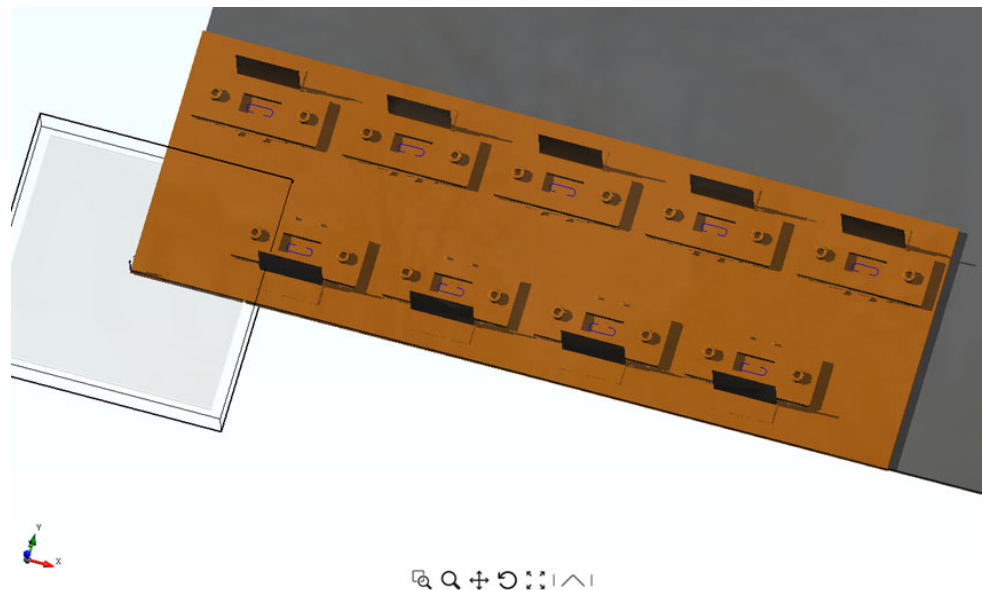

Figure 281: Placing Process Objects Relative to an STL Model
4. (Optional) Place any desired process objects (i.e. welds) along the STL model. See Figure 281 (below).